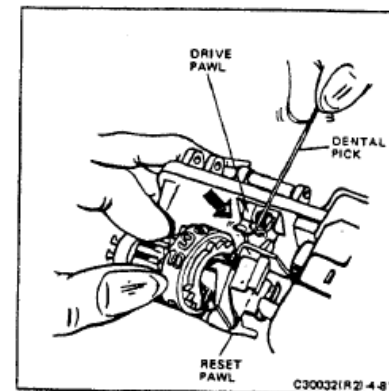

FIGURE 4-81 HOLDING DRIVE PAWL DURING COUNTER INSTALLATION
2. Holding the counter as shown in Figure 4-81, guide the flat tongue of the reset pawl into the forked end of the reset pawl spring in the film compartment. Simultaneously, rotate the drive pawl (using a dental pick) so that it enters the cavity in the inner frame.